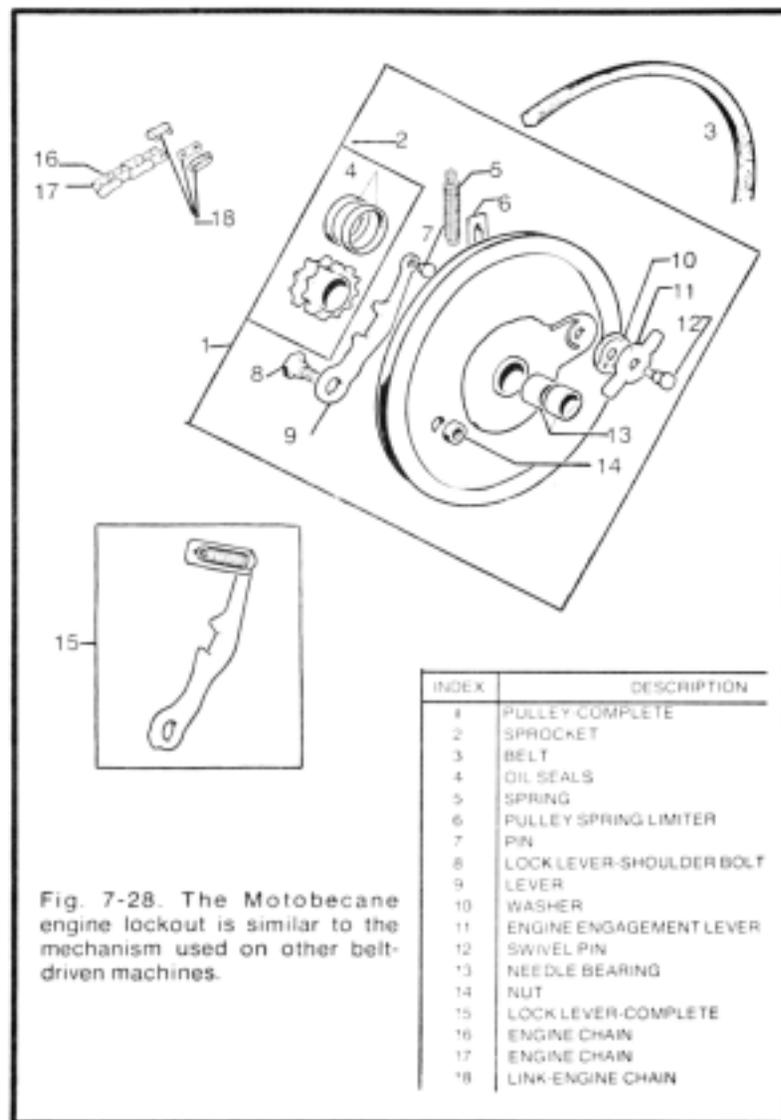

Fig. 7-28. The Motobecane engine lockout is similar to the mechanism used on other belt-driven machines.
Another lockout one that is typical of belt-drive practice, is shown in Fig. 7-28. The pulley floats on a pair of caged needle bearings (13) on the pedal shaft. It turns with the engine. The pedal crank has its own sprocket, not illustrated here; engine power goes to the back wheel by means of the sprocket assembly 2. The sprocket assembly consists of two toothed wheels; the outboard wheel drives the chain, the inboard wheel can mesh with the lock lever (9 and 15). The lever turns